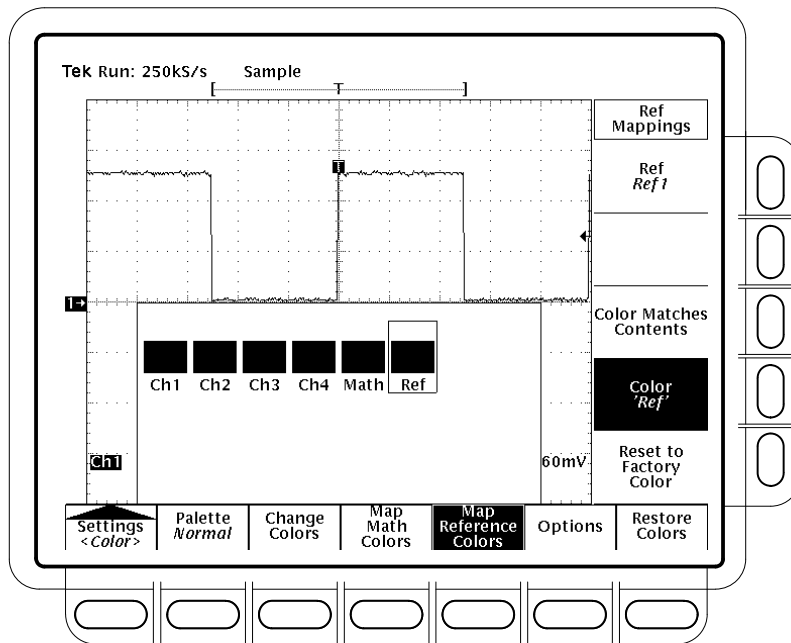

Figure 3–21: Display Menu — Map Reference Colors
1. Press the main menu **Restore Colors** item. (See Figure 3–22.)